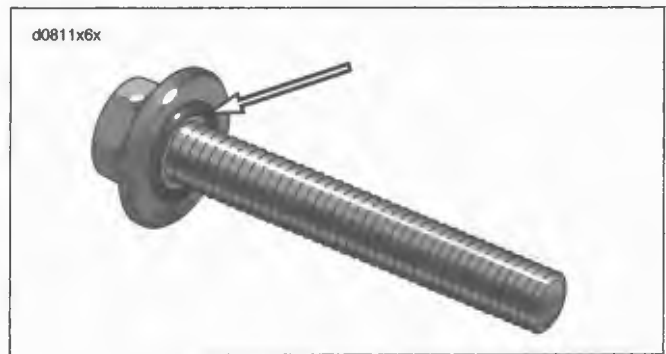

Figure 6-7. Sealing Fastener
4. See Figure 6-7. Insert **new** sealing fasteners.